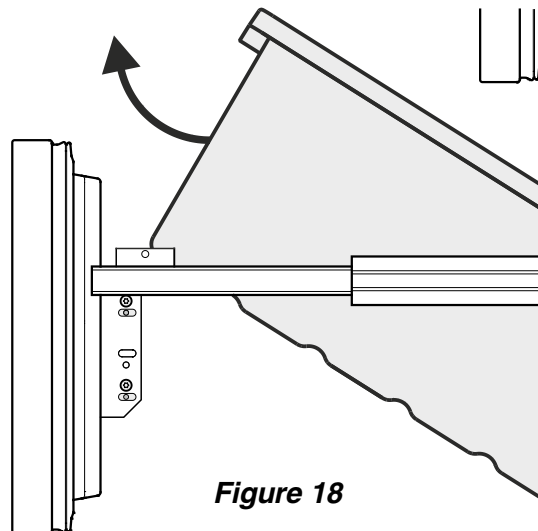

Figure 18
- Tilt the container at an angle and remove - **Figure 18**.